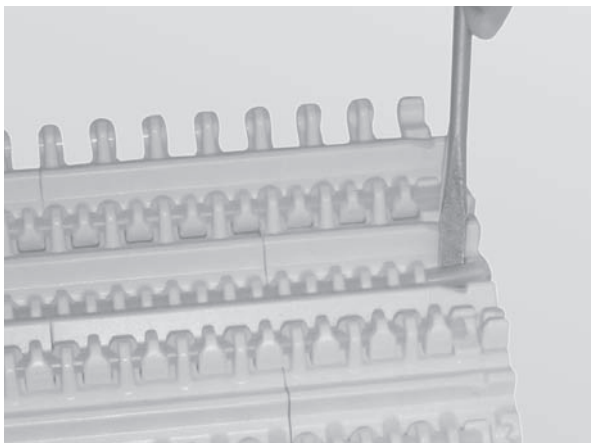

Figure 35
- Use a flat head screwdriver to raise the end of the belt rod above the retention lip (Figure 35).